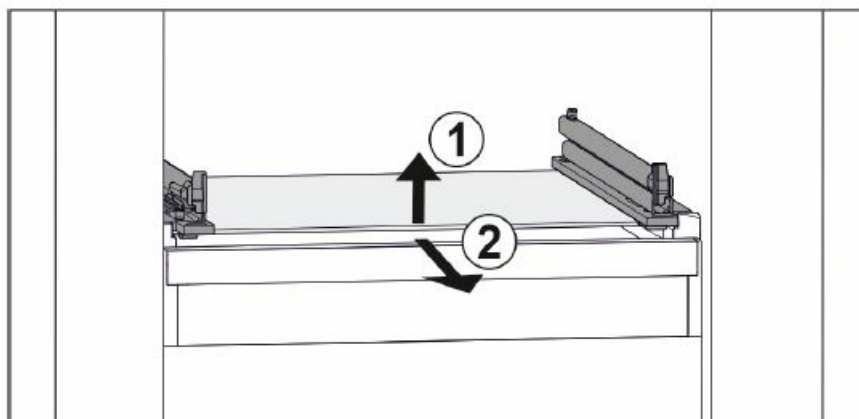

Fig. 23 Example illustration of glass shelf
- Lift glass shelf at the front. Fig. 23 (1)
- Remove glass shelf to the front. Fig. 23 (2)